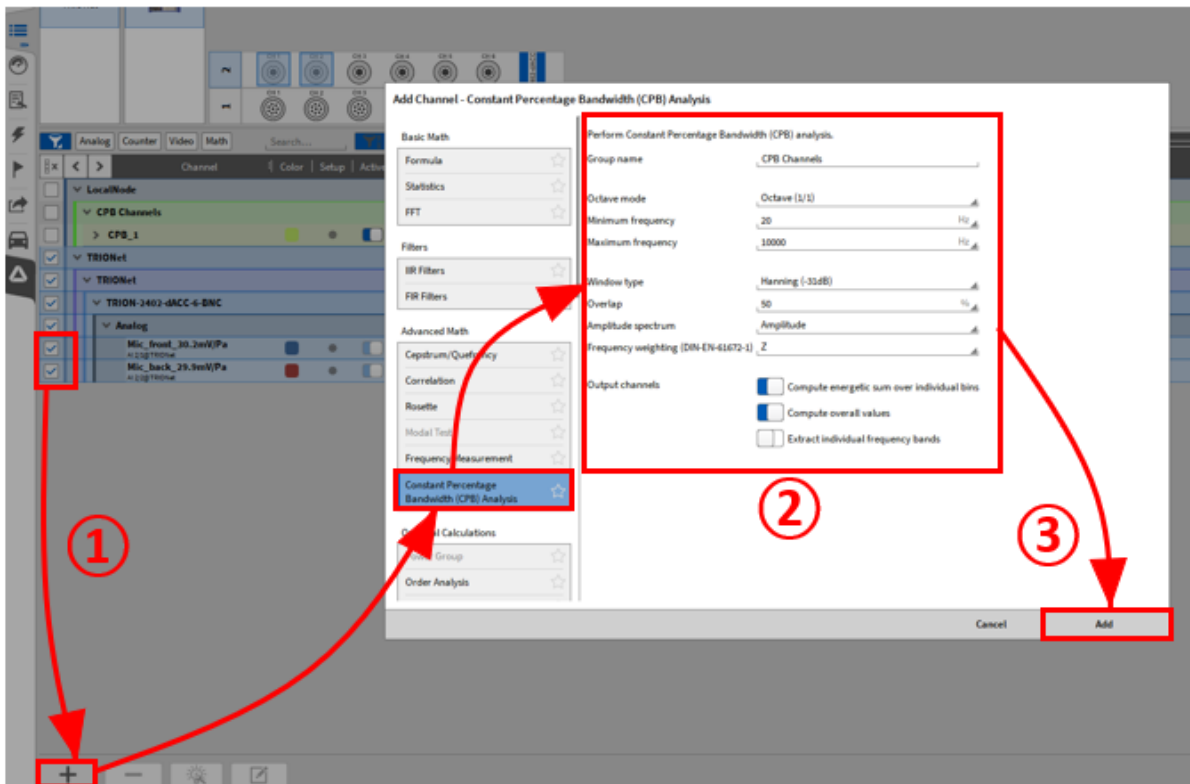

Fig. 7.123: Creating a CPB Analysis
The following options can be selected for a CPB Analysis (see ② in Fig. 7.123):